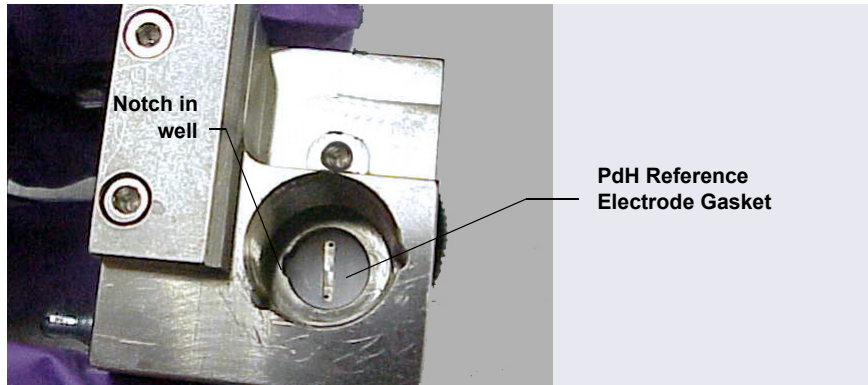

Figure 10-73. Removing the PdH Reference Electrode Gasket
- Using tweezers, remove the PdH reference electrode gasket from the well (see Figure 10-73).